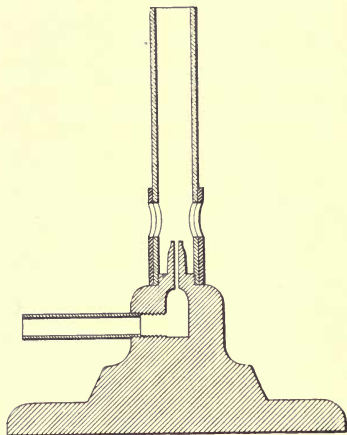

FIG. 21. — Section of a Bunsen burner.
**The Bunsen burner.** Illuminating gas is a mixture of hydrogen, carbon monoxide, and some gases rich in carbon. The hydrogen and carbon monoxide burn and furnish heat, while the other gases set free carbon which, being heated, gives a luminous flame. The products of this combustion are of course the same as in the case of kerosene. In the gas stove, we do not need a luminous flame, but we do require a hot flame. We gain this by using what is called a Bunsen burner (Fig. 21). The difference between this and an ordinary burner is that, in the Bunsen burner, air is mixed with the gas before it is burned.